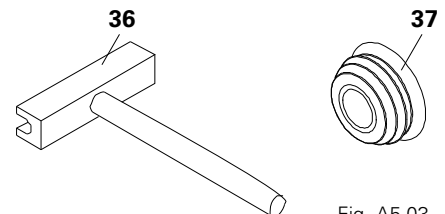

Fig. A5.03
- Tie Rod Wrench (36) for one-man tie point operations from one side of the formwork.
- Plugs (37) for closing tie holes which are not required.
- (Fig. A5.03)